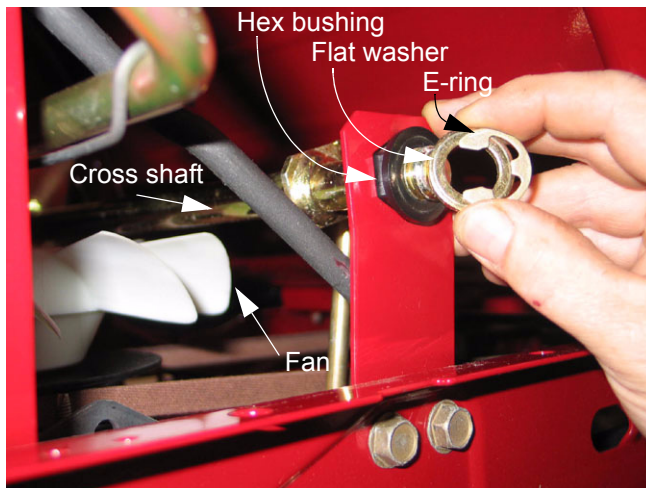

Figure 7.5
- 7.5. If the control lever develops enough play that it becomes imprecise, the plastic hex bushings that support the cross shaft are easily replaced. See Figure 7.5.